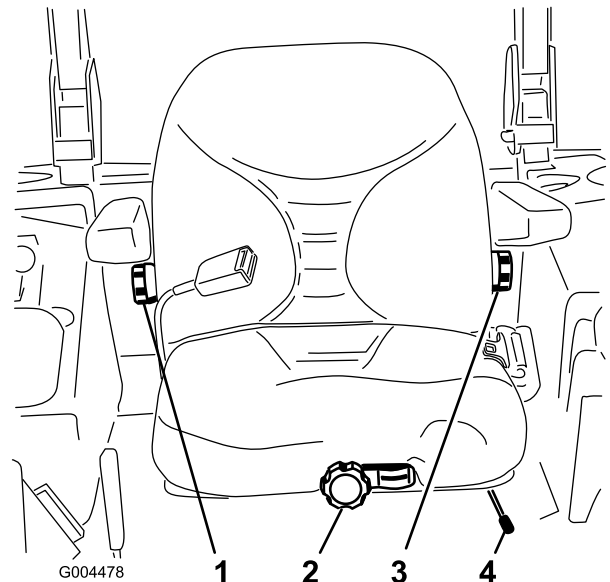

Figure 17
1. To adjust, move the lever sideways to unlock the seat (Figure 17).
Without sitting on the seat, turn the knob in front either direction to provide the best comfort (Figure 17).
To adjust it, turn the knob, under the right-side armrest, in either direction to provide the best comfort (Figure 17).
To adjust it, turn the knob, under the left-side armrest, in either direction to provide the best comfort (Figure 17).